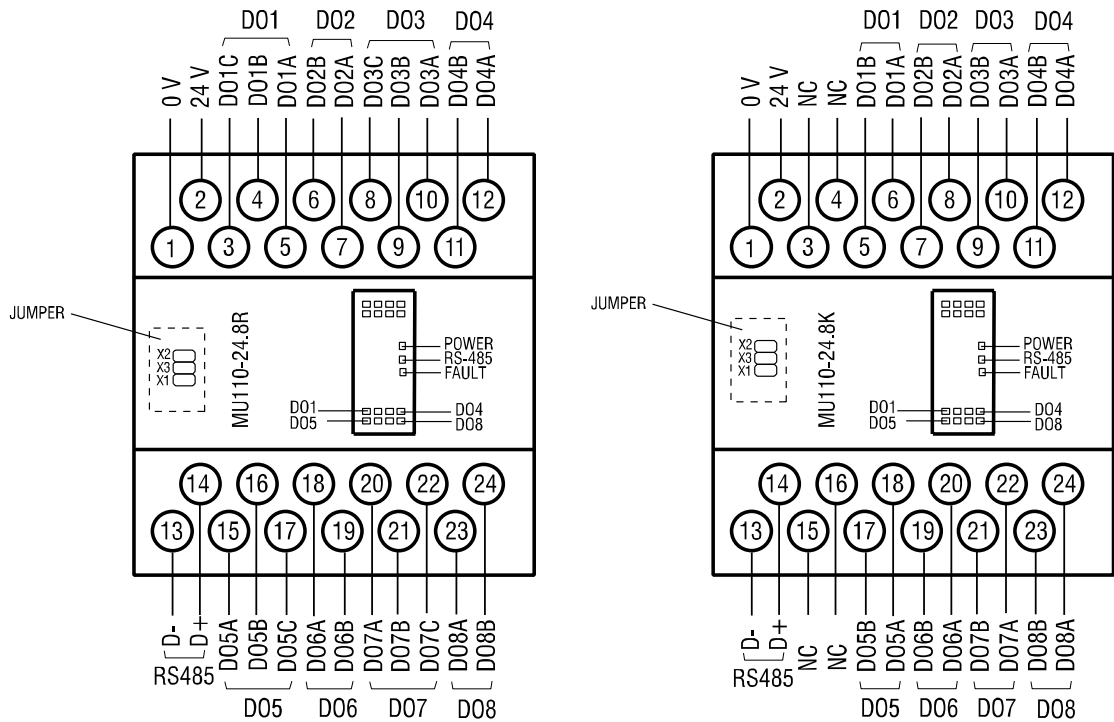

Fig. 4.1 Electrical connections MU110-8R and -8K
- The electrical connections are shown in Fig. 4.1 and the terminal assignments in Table 4.1.
- Open the front cover of the module (see Fig. 4.1)